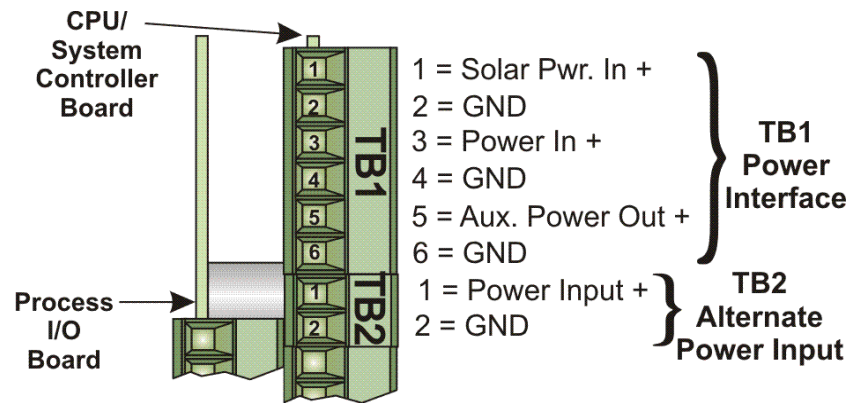

Figure 2-12. CPU/System Controller Board (TB1 & TB2) Power Wiring
*Figure 2-12* shows the typical wiring at the TB1 block.